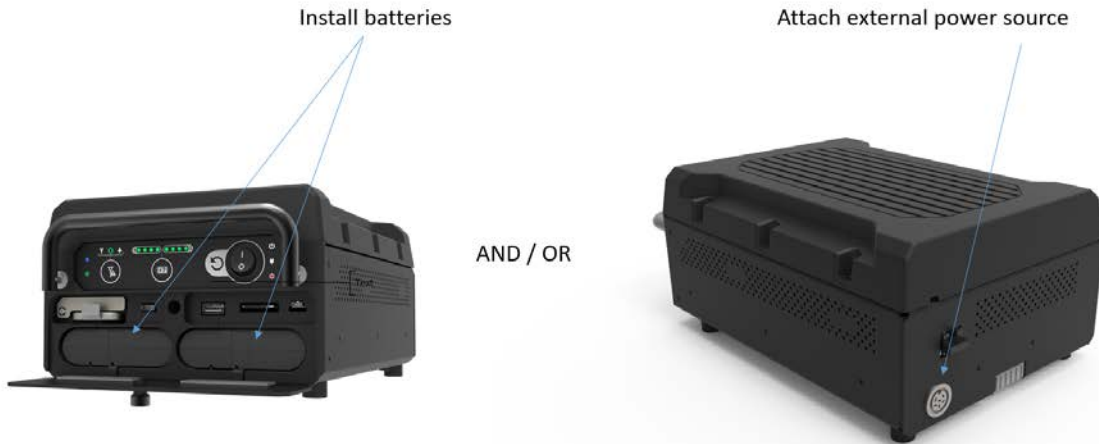

Figure 4-1: Power Source
Two (2) high-density Lithium-ion (Li-ion) battery modules, RRC Power Solutions P/N RRC2054-2, are required to power the Sierra. Alternatively, Sierra can be powered via the aircraft 28VDC power bus with the appropriate STC. Refer to Figure 4-1.